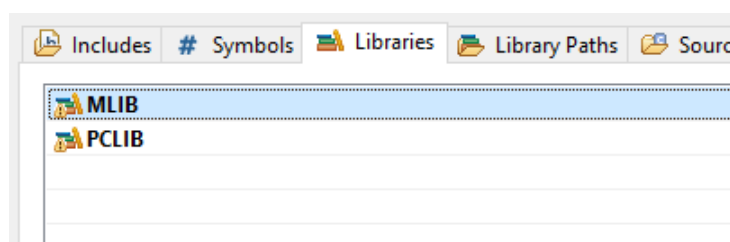

Figure 1-11. Libraries
9. After adding the library paths, add the library files. Click the Libraries tab. See Figure 1-11.
14. Click OK, and you will see the added in the list. See Figure 1-11.